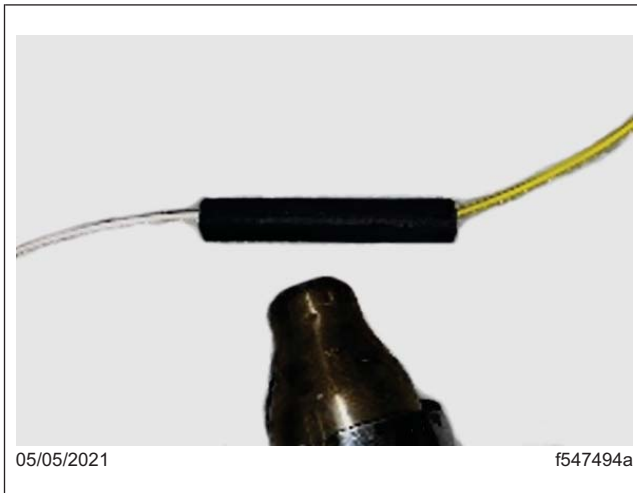
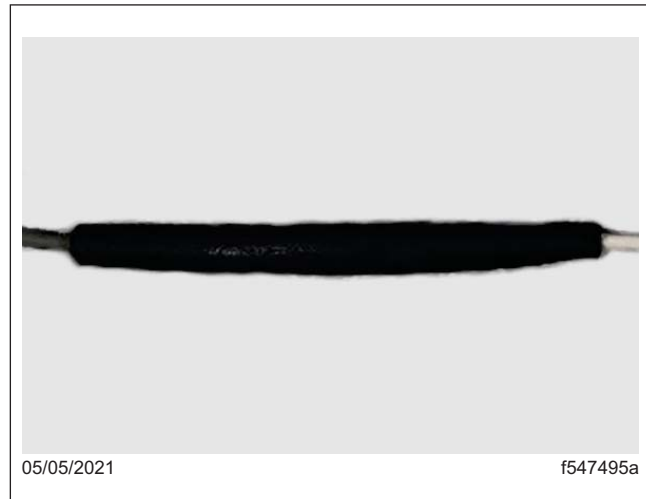

Fig. 25, Heating the Tube Sleeve
Fig. 26, Sealed Tube Sleeve
- When the connector has cooled, center the shrinkable tubing over the splice and heat the tubing, as shown in Fig. 25, until it has completely sealed the splice and a small fillet of adhesive is visible at the ends of the shrink tube. See Fig. 26.